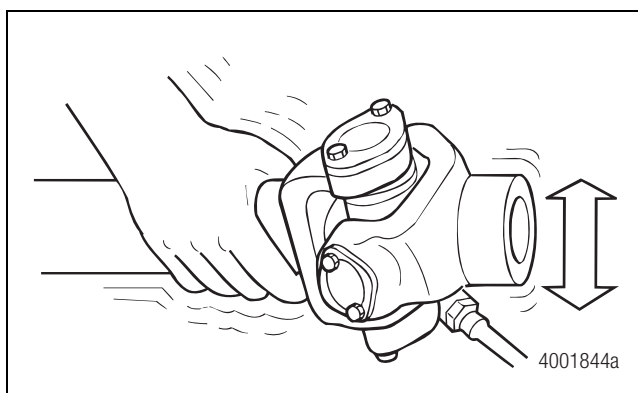

Figure 5.13
- Move the assembly UP-AND-DOWN or SIDE-TO-SIDE while you apply grease gun pressure. Figure 5.13.